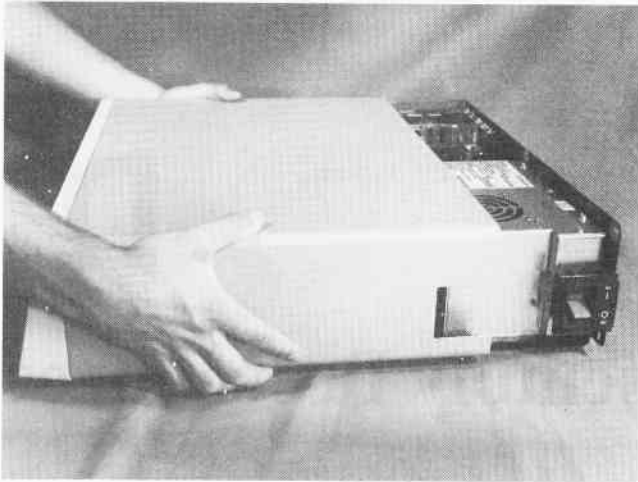

Fig. D-2. Gently slide the system unit cover forward.
6. Place your hands on either side of the cover and slide the cover off of the main unit pulling towards you as shown in Fig. D-2.